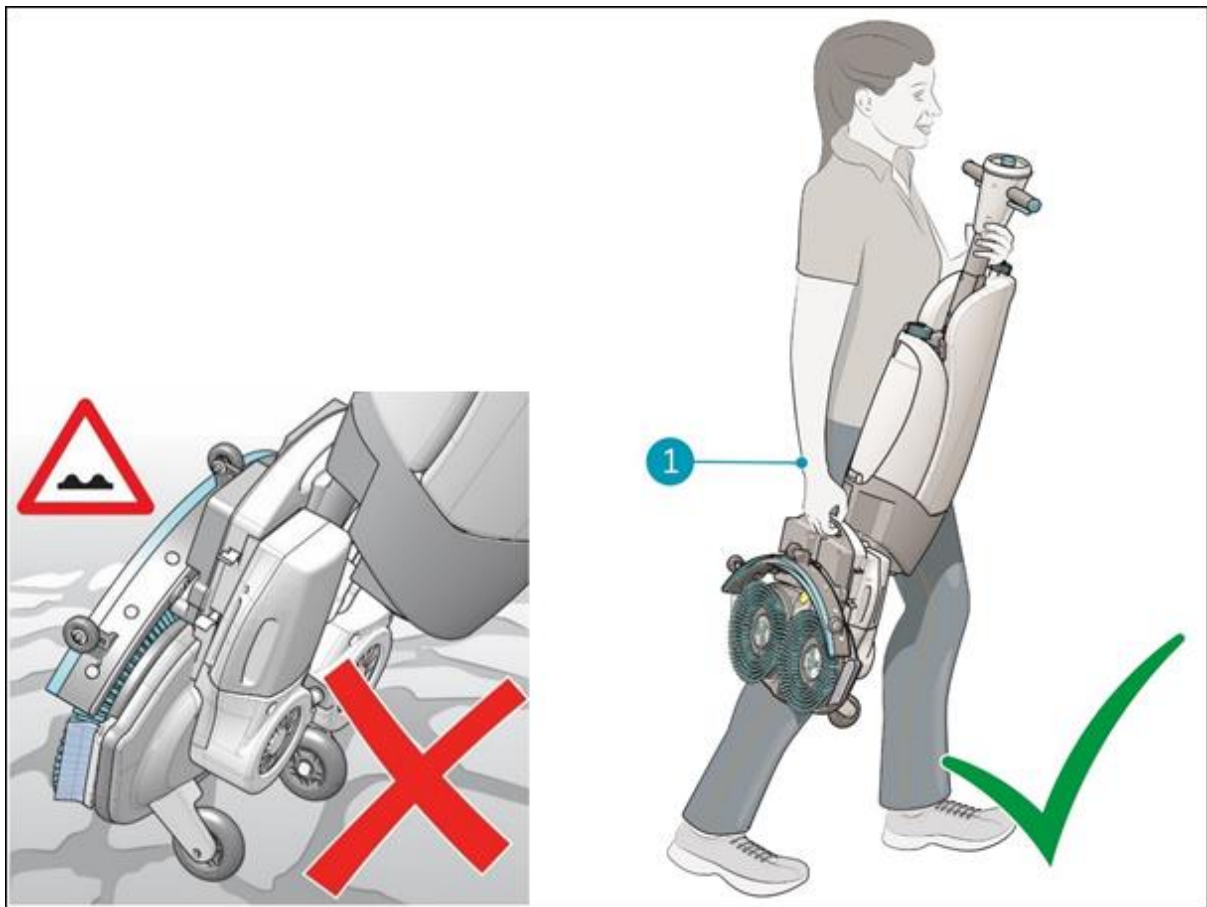

Figure 6
2. Carry the i-mop XL Plus with one hand while holding the handle (Figure 6, pos 1) with your other hand.